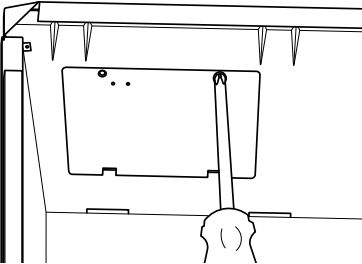

Figure 2 - Remove Heat Insulation Board Cover
2. Unscrew two screws on heat insulation board cover (see Figure 2).
6. Reinstall heat installation board cover with 2 screws (see Figure 2).